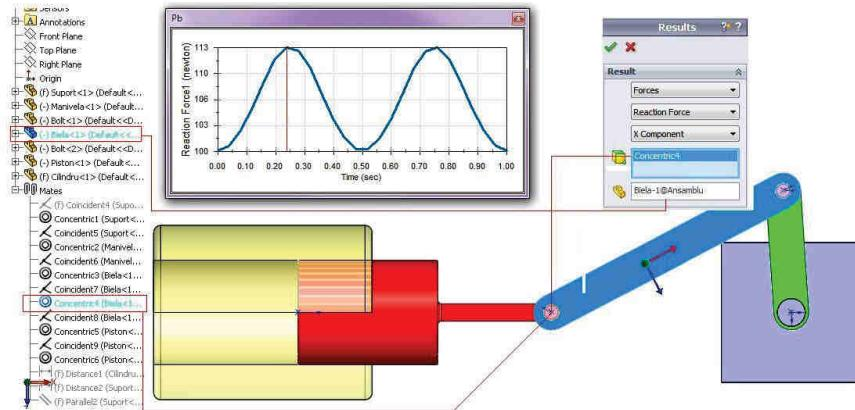

Fig. 17.46
- Click **Results and Plots** to view the force curve  $P_b$  as a function of time, fig. 17.46, defined by: